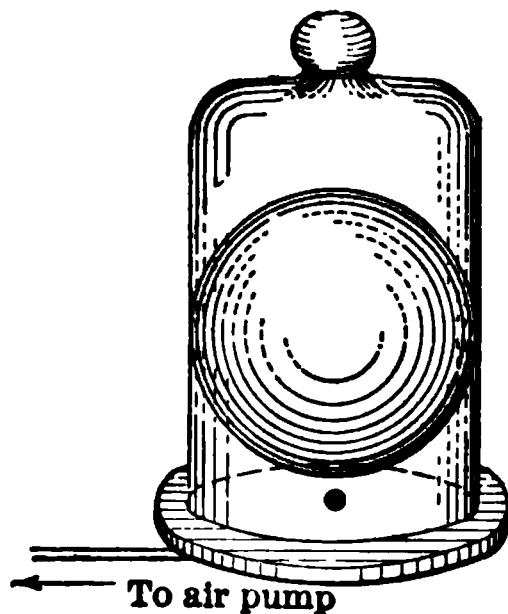

FIG. 45. — Gases expand when pressure upon them is decreased.
55. Expansibility of Gases. Solids and liquids have a definite volume, but gases expand and fill the vessel in which they are placed. The space they occupy depends upon the pressure to which they are subjected. A half-inflated rubber ball under a bell-jar expands as the air is pumped out of the jar, since the pressure on the ball is reduced. See Fig. 45. Since gases expand when heated and also when the pressure is reduced, it is necessary when measuring gas volumes to consider both the temperature and the pressure to which they are subjected. To prevent confusion, 0° C. and 760 mm. pressure are accepted as standard. When we refer to a volume of gas that measures 1000 c.c. at standard temperature and pressure (S.T.P.), we mean that when the temperature of the gas is